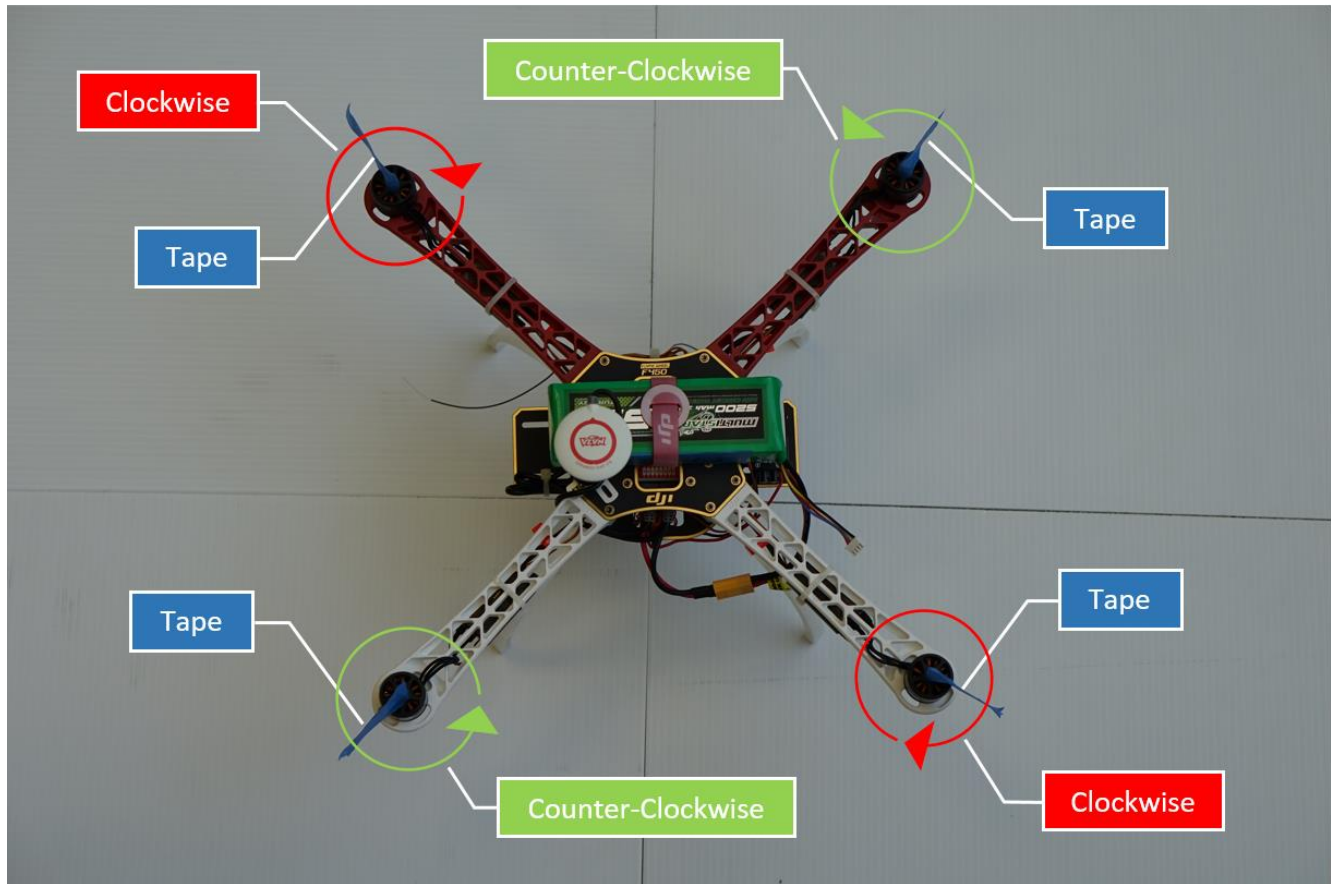

Figure 4: Diagram of motor orientation of the DJI F450 quadcopter.
- b. Adding tape to the stem of each motor can be used to help determine the direction each motor spins when power is applied (see Figure 4).
- f. Repeat steps "c" through "f" until each motor's spinning direction matches the directions given in Figure 4.